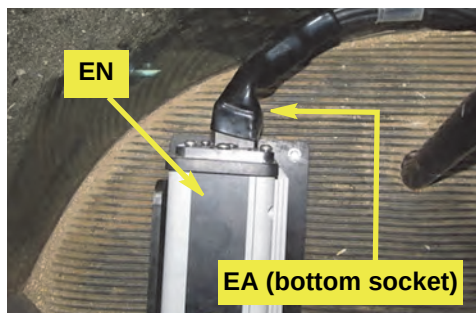

Figure 2a: Installed ECU main cable
- a. Connect main cable **EA** to ECU **EN** using an Allen wrench to secure the cable (Figure 2a). The cable will fit only the ECU socket that is in line with the power/communications indicators at the opposite end of the ECU - the bottom socket in this installation.